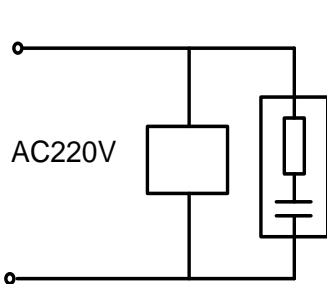
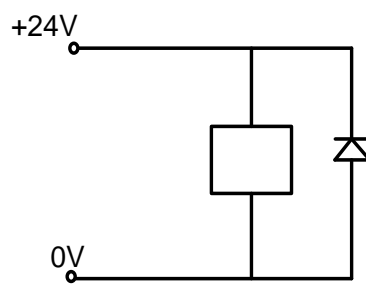
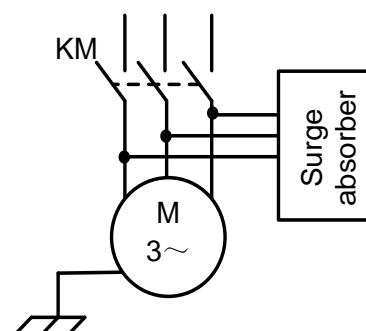

Fig.1-2
Fig. 1-3
Fig. 1-4
3. To inhibit interference: connect parallel RC circuit at both ends of AC winding (Fig. 1-2), RC circuit should approach to inductive loading as close as possible; reversely connect parallel freewheeling diode at both ends of DC winding (Fig. 1-3); connect parallel surge absorber at the ends of AC motor winding (Fig. 1-4);